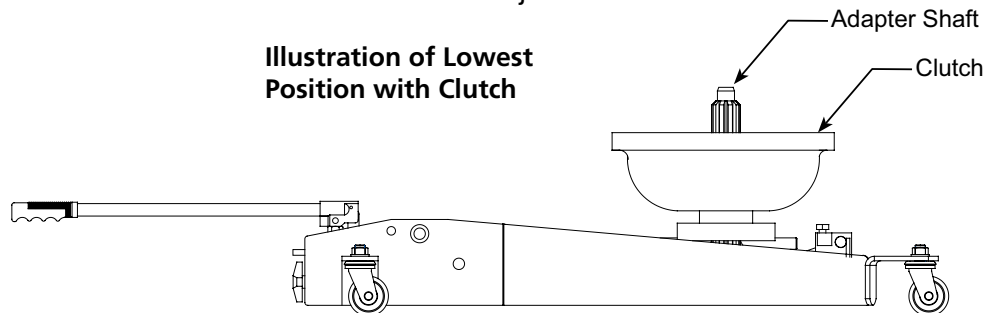

Figure 1
Be sure the adapter shaft is in the vertical position and the jack is fully lowered before transporting, as shown in Figure 1.
1. To load or unload a clutch from the jack, be sure the adapter shaft is in the vertical position, as shown in Figure 1. Add or remove one piece of the clutch at a time.